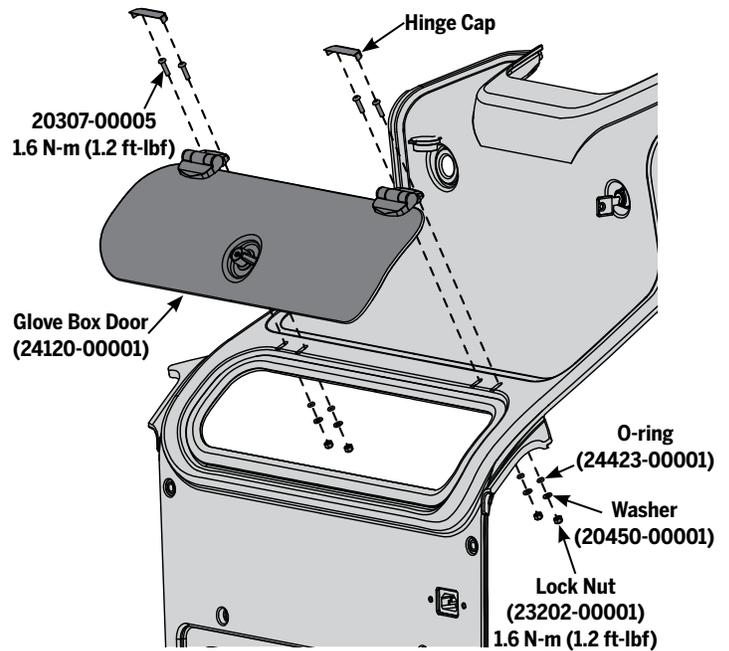

Figure 68: Glove Box Door
2. Pop off the top hinge caps (**Figure 68**).